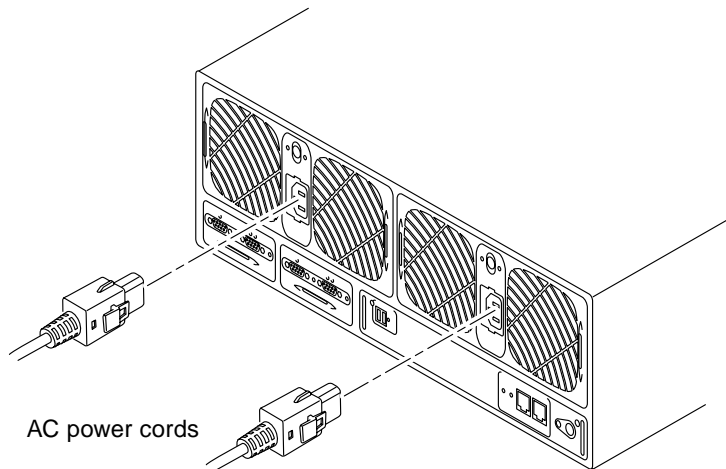

FIGURE 6-4 Connecting the Power Cords
7. **Attach the two power cords to the two power and cooling units on the back of the master unit (FIGURE 6-4).**